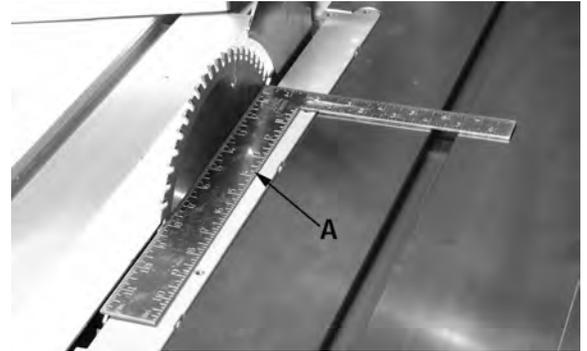

FIGURE 55
2. Place a precision square (A) Fig.55 against the blade and the T-slot. Position the square at the rear of the blade as shown. Note the distance between the blade and the t-slot.